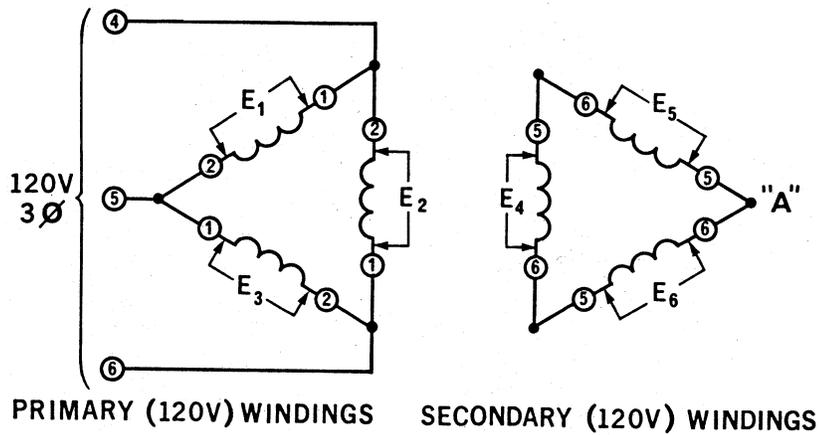

Figure 48-8.
4. a. The circuit shown in Figure 48-8 has three transformers connected in a \_\_\_\_\_ configuration.